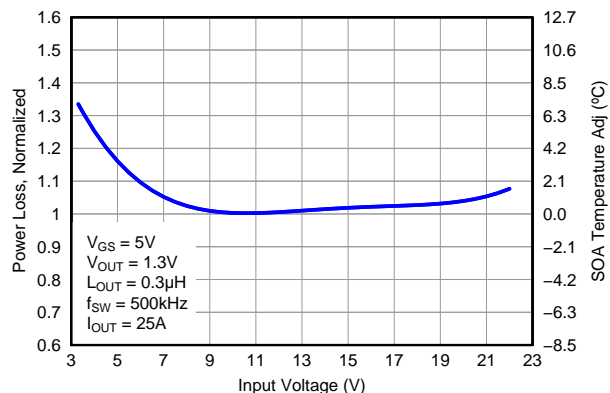

Figure 7. Normalized Power Loss vs. Input Voltage
- Normalized Power Loss for input voltage  $\approx 1.05$  (Figure 7)
- SOA adjustment for input voltage  $\approx 1.05^\circ\text{C}$  (Figure 7)